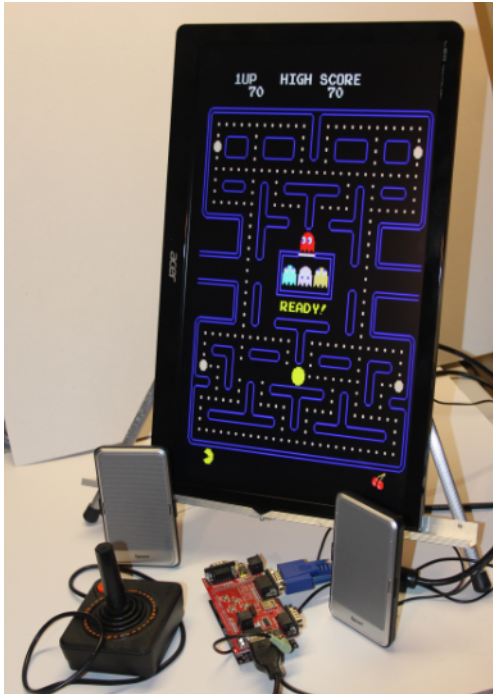

Figure 7-1 VGA arcade project setup
- A small LCD display with a VGA input. You'll need to physically turn this display 90 degrees to view the game. A VGA cable is also required. I held the display up using a small artist's table easel. The setup is shown in Figure 7-1.